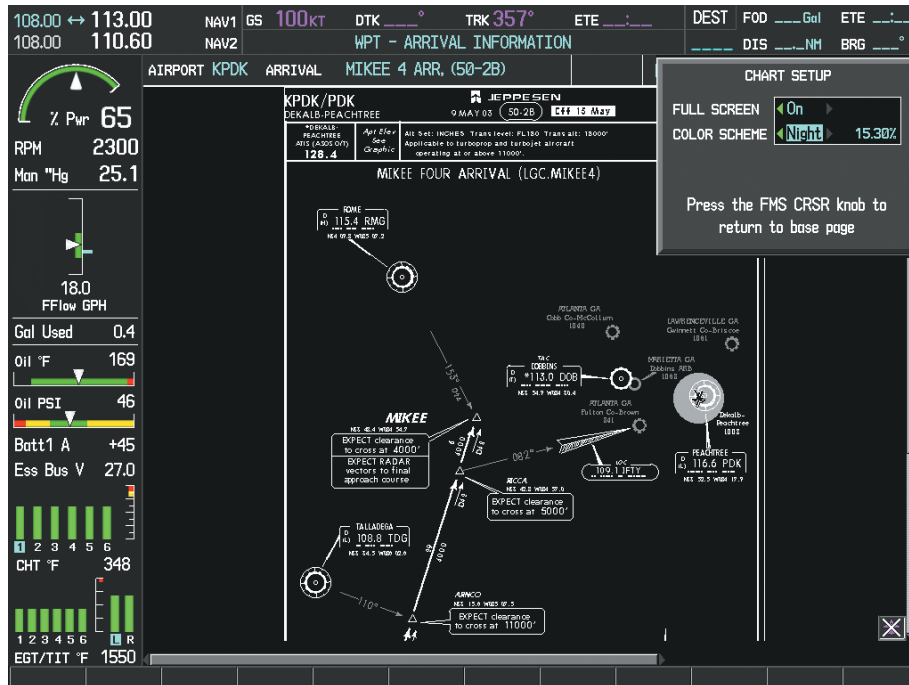

Figure 8-48 Arrival Information Page, Night View
- 3) Turn the large **FMS** Knob to move to the COLOR SCHEME Option (Figure 8-48).